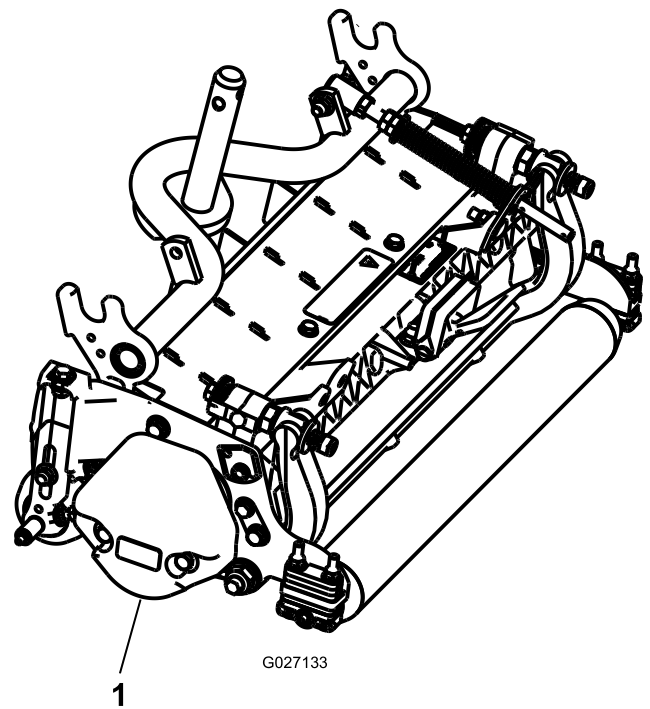

**Figure 6**
3. At each cutting unit lift arm, remove the snapper pin that secures the cap to the pivot yoke, and remove the cap (Figure 6).